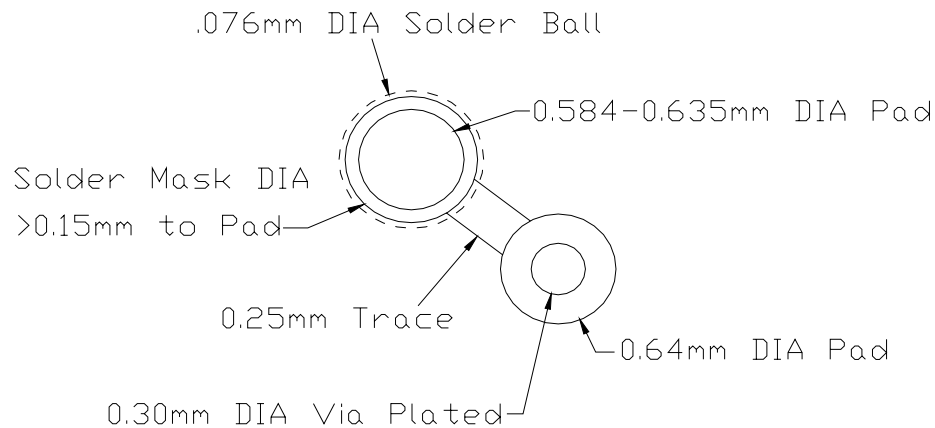

Figure 2: Pad Layout Example
Proper PCB design affects connector reliability and performance. The following recommendations are intended to ensure reliable electrical connections, while maximizing manufacturing yields and aiding in possible rework applications. Refer to customer drawings for overall pad layout. See Figure 2 for the detail of a single pad and via design.
- PCB vias should not be included in the ball grid array solder pads (See Figure 2). The connector side of the via shall be fully covered with solder mask. Solder mask may be truncated along interconnect trace.